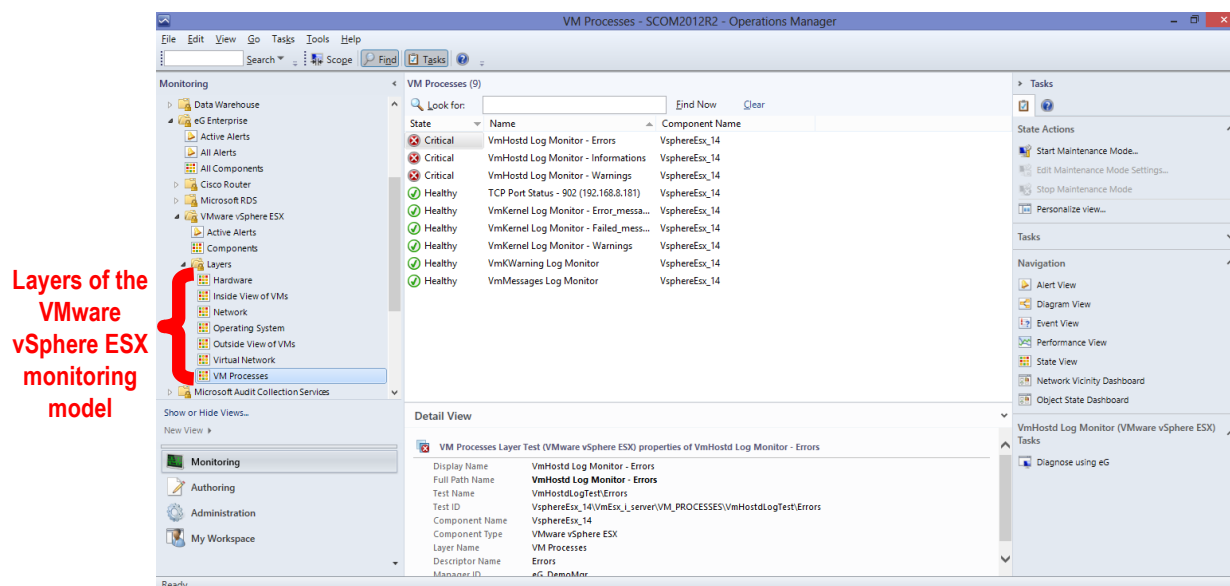

Figure 3.17: Viewing the layers as sub-nodes of the 'Layers' node
- Then, click on a layer in the tree-structure. Upon clicking, all the tests mapped to that layer, the descriptors they support (if any), and the current state of each test will be available in the right panel (see Figure 3.17). Clicking on a row of information here will provide complete details of the test and descriptor in the **Detail View** below.
- If a test is in a **Critical** or **Warning** state, you may want to know which measure of that test reported the abnormal measures and why. To zoom into the root-cause, you may want to launch the eG monitoring console from the SCOM console itself. For that, click on the **Diagnose using eG** option in the **Actions** pane of Figure 3.17. This will launch the eG monitoring console, where the complete layer model of the VMware vSphere ESX server will be displayed, and the problem layer, test, and measurement highlighted.